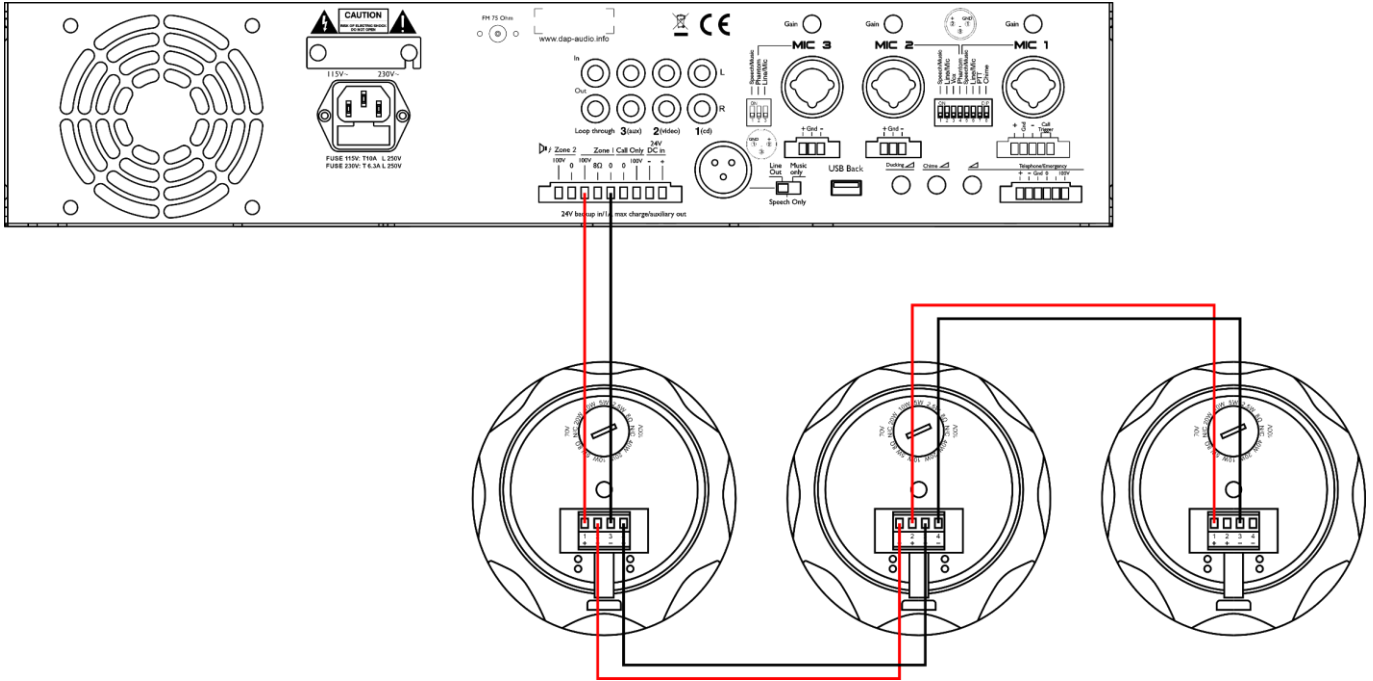

Fig. 11
- 01) Connect one of the (-) connectors on the **4-pin terminal connector (06)** of the first device to the COM output of the 70/100 V amplifier.
- 02) Connect one of the (+) connectors on the **4-pin terminal connector (06)** of the first device to the line transformer tap (70 V or 100 V) of the 70/100 V amplifier.
- 03) Connect the other (-) connector on the **4-pin terminal connector (06)** of the first device to one of the (-) connectors on the **4-pin terminal connector (06)** of the second device.
- 04) Connect the other (+) connector on the **4-pin terminal connector (06)** of the first device to one of the (+) connectors on the **4-pin terminal connector (06)** of the second device.
- 05) Repeat steps 3–4 to connect all devices in a daisy-chain as shown in Fig. 11.